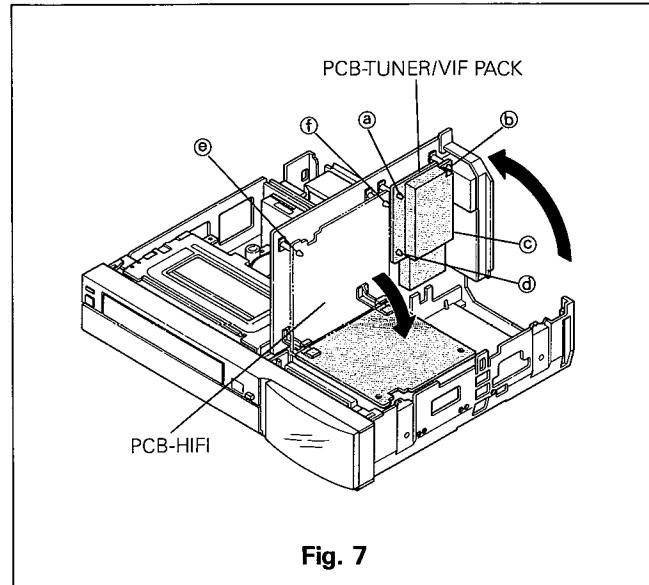

Fig. 7
- B. Untasten the four supports (Ⓐ ~ Ⓞ) and remove the PCB TUNER as shown in Fig. 7.
- B. Unfasten the two supports (Ⓔ and ⏆) and rotate the PCB HIFI as shown in Fig. 7.